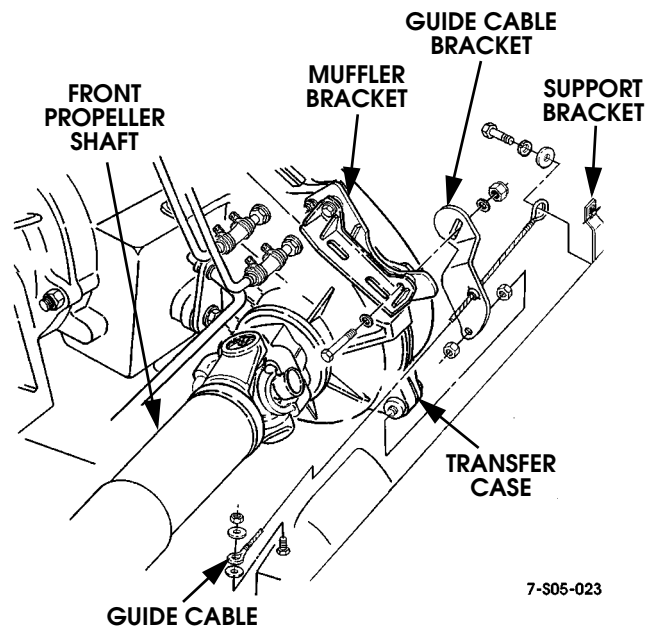

Figure 5-76: Guide Cable Attachment
1. Remove bolts, nuts, and washers attaching cable bracket to muffler bracket (Figure 5-76).